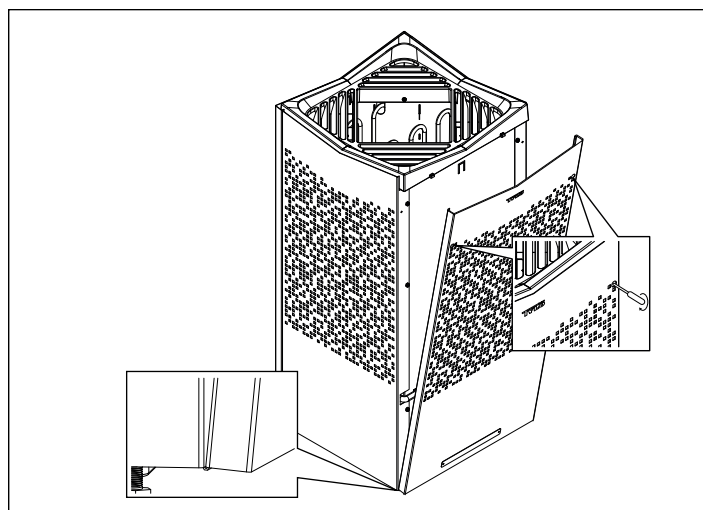

Fig 10: Hook and screw back front panel
7. Hook on the front panel and tighten the screws (see Figure 10).